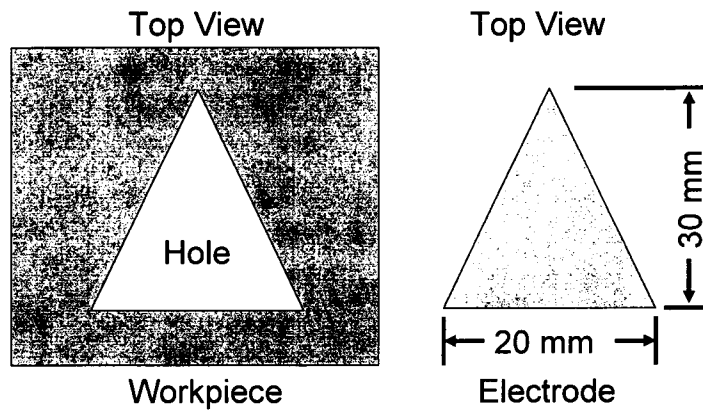

FIGURE Q3 (B)
- Q3** (a) **Figure Q3 (a)** shows examples of artificial parts knee component for surgery knee replacement. What modern manufacturing process is capable to produce them? Justify your answer with possible consideration. (5 marks)
- (b) An internally-cooled turbine nozzles has holes at very large angle to a surface as shown in **Figure Q3 (b)**. The material is a super alloy of high hardness. Suggest three non-traditional process learned in this course, according to priorities, that could be considered for making the holes and justify your answer. (5 marks)